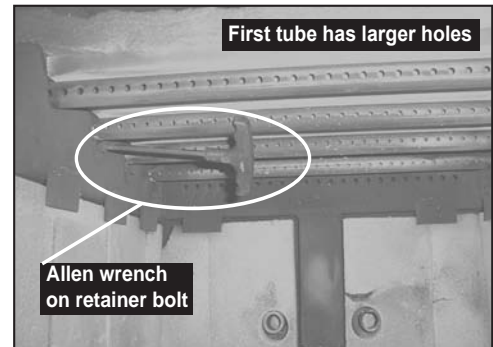

Figure 27.1 - Manifold tubes retaining bolt.
3. With a 3/16" Allen wrench, remove 2 front manifold tube retainer bolts on the air channel under the end of the front tubes. **NOTE:** Soak the bolts with penetrating oil for at least 15 minutes before trying to remove them. **Figure 27.1.**